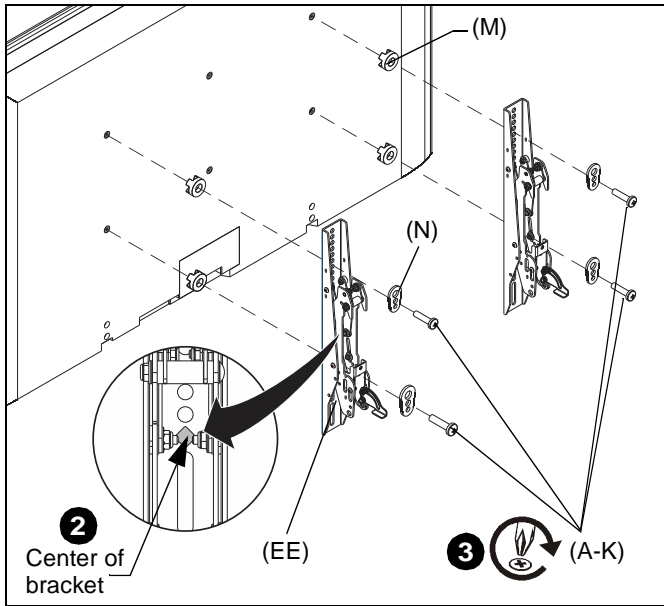

Figure 8
- Align the center of the interface bracket (EE) with center of screen. (See Figure 8)
- Select correct screws, nesting spacers (if necessary) and universal washers from the hardware bag (A-N) and attach brackets (EE) to back of screen. (See Figure 8)